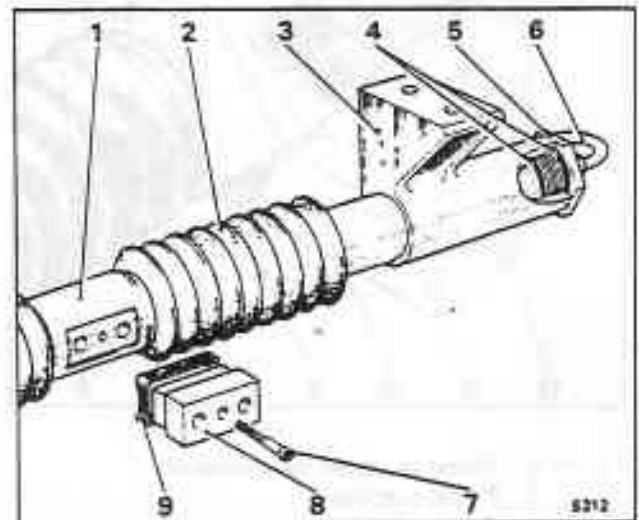

Fig. N1-4 Removal of convoluted seals
**Replacement of convoluted seals (see fig. N1-4)**